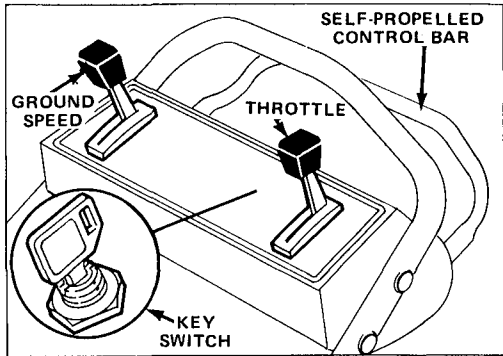
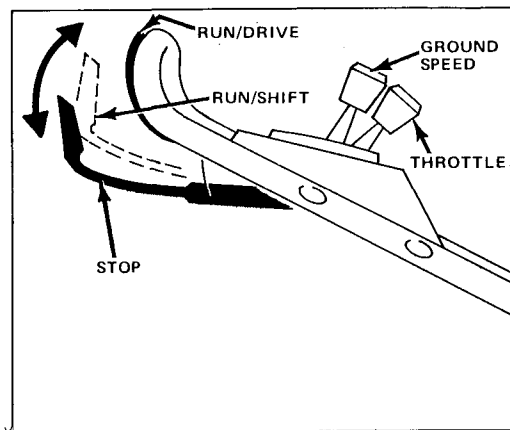

Figure 9
Figure 10
1. CONTROLS — Key switch, ground speed control, throttle, and control bar are on upper handle (Fig. 9).
4. KEY-ELECTRIC — Move ground speed control to "N" and throttle to FAST (Fig. 9). Lift control bar up to RUN position and hold (Fig. 10). Turn key (Fig. 9) to START and release when engine begins running. Regulate throttle as desired. If engine does not start after 3 seconds of continuous cranking, wait 10 minutes for carburetor prime well to refill.
Ground speed varies, depending on space between control bar and handle (Fig. 10).